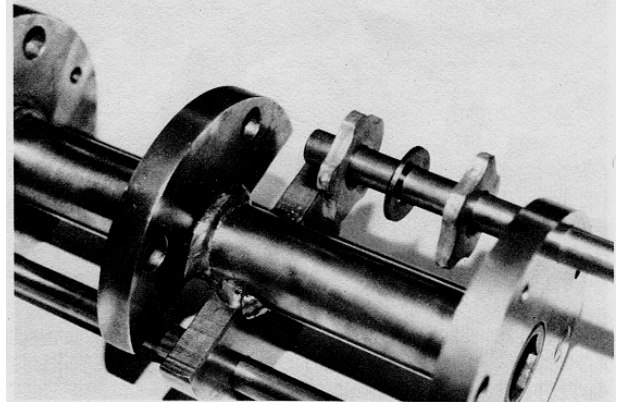

FIGURE 18
2) Install a flail next to the outside side plate of the wide section. Next, install a spacer washer. Follow with a flail and continue the sequence until the section is full. FIGURE 18.